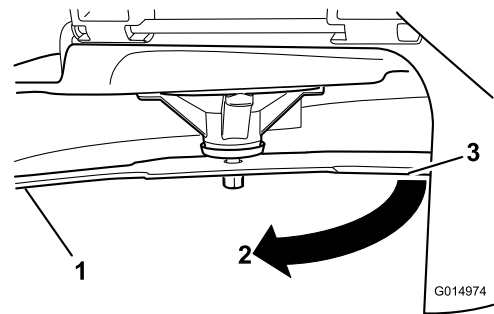

Figure 105
3. Measured distance between blade and the surface (A)
4. Rotate the same blade 180 degrees so that the opposing cutting edge is now in the same position (Figure 105).